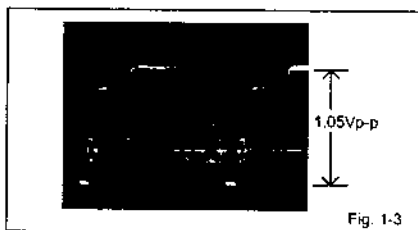

Fig. 1-3
3. Check if the VIDEO OUTPUT LEVEL is  $1.05 \pm 0.15V_{p-p}$ . (Refer to Fig. 1-3)